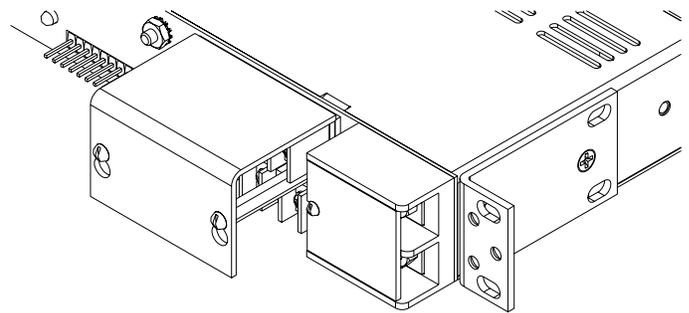

Figure 1.6.1
1.6. The N250110-N/0803 fuse panel is made from 0.050" steel and painted off white. This panel is shipped with universal brackets that will fit both 19" and 23" wide racks and uses only one 1.75" panel spaces. The panel has two clear L shaped shields to protect the wiring connections on the front of the panel. (See Figure 1.6.1)